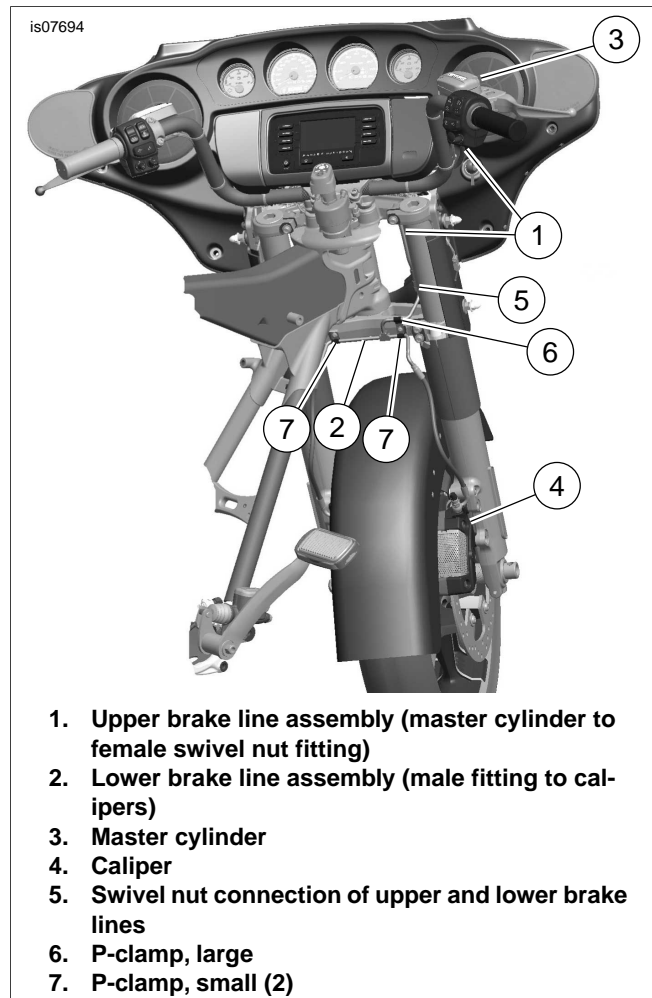

Figure 2. 2014-Later Front Non-ABS Brake Lines
2. See Figure 2. Obtain the new upper (1) and lower (2) brake line assemblies.